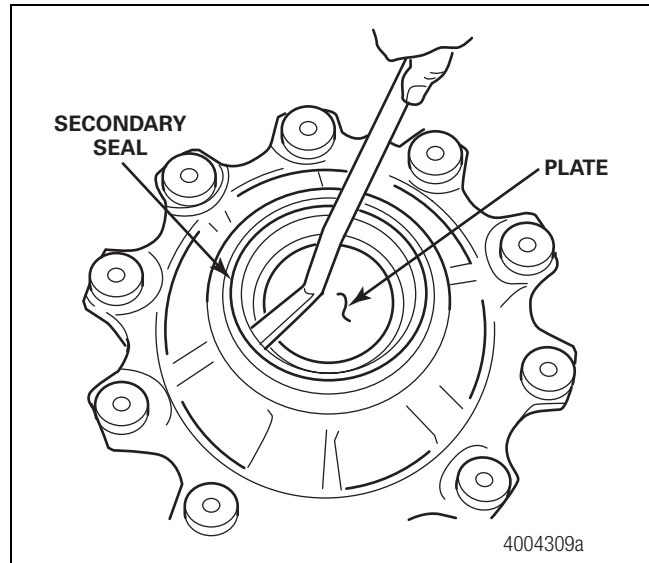

Figure 4.18
10. Remove the secondary oil seal from the hub. When you remove the secondary seal, you must protect the interior of the unitized hub with a plate. Figure 4.18.